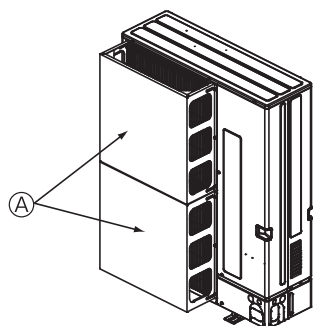

Fig. 2-5
- ② Install an optional air protect guide if the unit is installed in a location where strong winds from a typhoon, etc. may directly enter the air outlet. (Fig. 2-5)